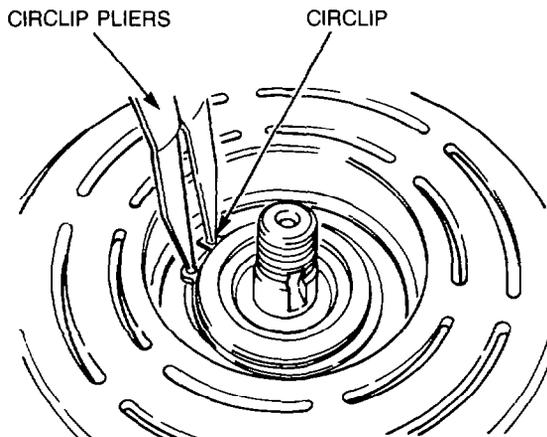

Figure 20 — Pulley External Circlip — Removal
- d. Using suitable circlip pliers, remove the external bearing circlip from the housing (see Fig. 20).